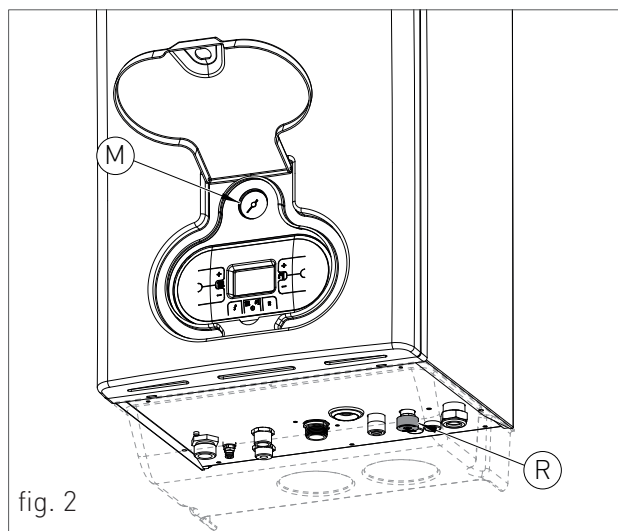
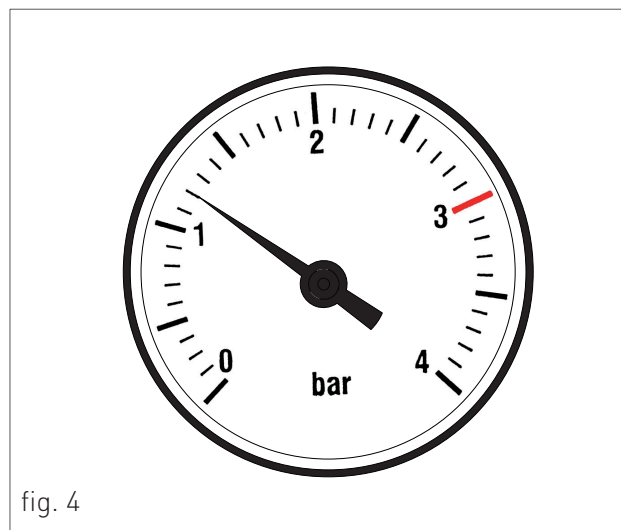

fig. 2
fig. 4
THIS BOILER HAS BEEN DESIGNED FOR OUTDOOR INSTALLATION IN A PARTIALLY PROTECTED LOCATION (SEE FIG.2 AT CHAPTER 'POSITIONING AND MINIMAL TECHNICAL SPACES').
It is allowed an outdoor installation in a partially protected location (i.e. shelter, balcony) that respect the minimum measure indicated in figure 2.
4. open the feeding tap "R" (fig. 2);
6. use pressure gauge "M" (fig. 2) to make sure that the system pressure reaches 1.2 bar (fig. 4);
7. after performing this operation, make sure that the loading tap "R" (fig. 2) is properly closed.
10. If after performing these operations you observe a decrease of the water pressure inside the system, open once again the loading tap "R" until the pressure gauge indicates the value of 1.2 bar (fig. 4).